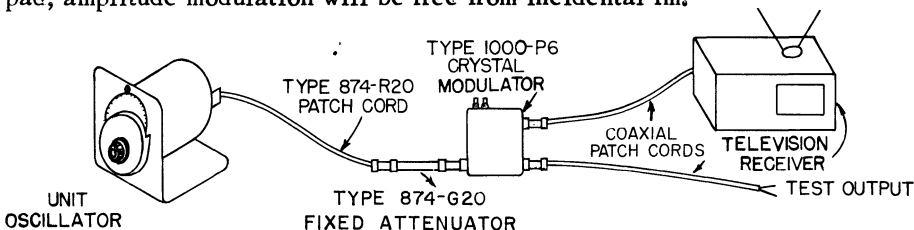

Figure 5.
3.3 UNIT OSCILLATOR AS TELEVISION SIGNAL GENERATOR. Used in combination with a Type 1000-P6 Crystal-Diode Modulator and a Type 874-G20 20-db Fixed Attenuator, the Unit Oscillator is a convenient source of television signals over its entire carrier-frequency range if video modulating voltage is available. The arrangement of components is shown in Figure 5. The required modulating voltage can be furnished by a standard television receiver tuned to a local station.